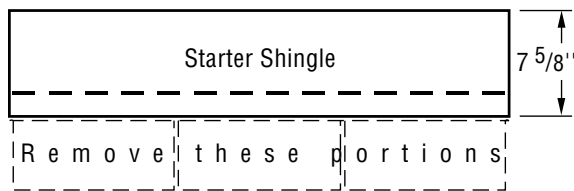

Figure 13-6: Make starter shingles that are 7-5/8" in height.
1. Use CertainTeed Swiftstart® Starter, or three-tab self-sealing shingles with the lower tab portions removed. Be sure that the starter shingles are at least 7-5/8" in height. (Figure 13-6).